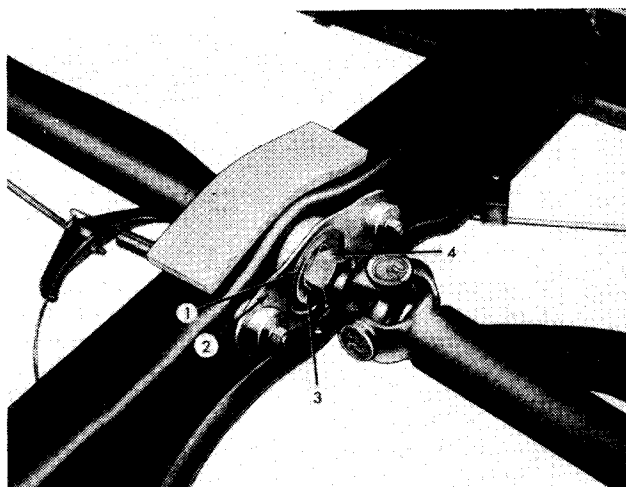

FIG. 6
To remove the rear propeller shaft, first straighten the ears of the lock plate (3, Fig. 6 and remove the grease washer nut (4) from the front shaft. Then mark the universal joint flange and rear axle companion flange so that at installation the original position and balance will be maintained. Remove the U-bolts which hold the rear joint bearing cups and cross to the rear axle flange. Shift the rear shaft forward, separating the rear joint. Then remove the bearing cups and bearings or tape them in place on the joint cross. Slide the shaft rearward, slipping the end of the shaft out of the splines of the front shaft.